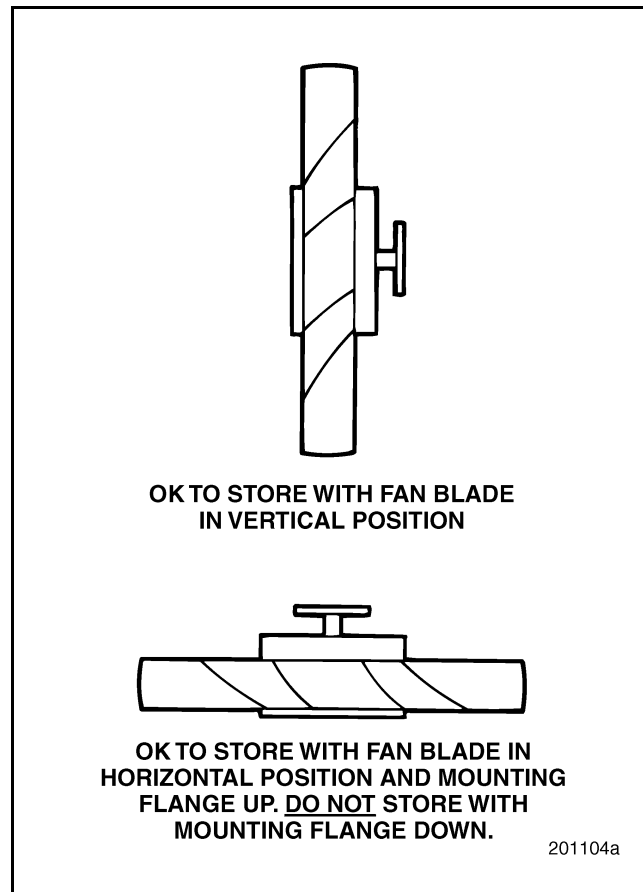

Figure 121 — Viscous Fan Drive Assembly Storage
- c. If the fan assembly is equipped with a viscous drive, be sure to store the assembly either horizontally, with the fan face down (hub flange up), or vertically, as shown in Figure 121. This will prevent fluid leaking from the assembly.